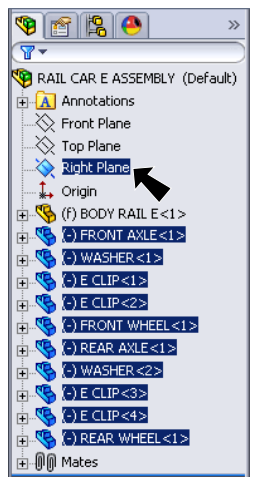

Fig. 35
Step 3. **Ctrl click** **Right Plane**  in the Feature Manager to select all Parts (except BODY RAIL E) and Right Plane, **Fig. 35**. To Ctrl click, hold down the Ctrl key and with the Parts selected, click **Right Plane** .